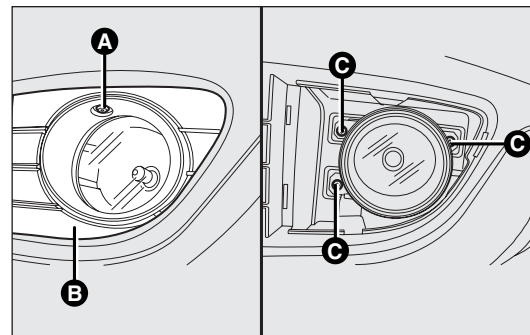

fig. 144
- ☐ loosen the screw A-fig.144 and remove the protection template B;